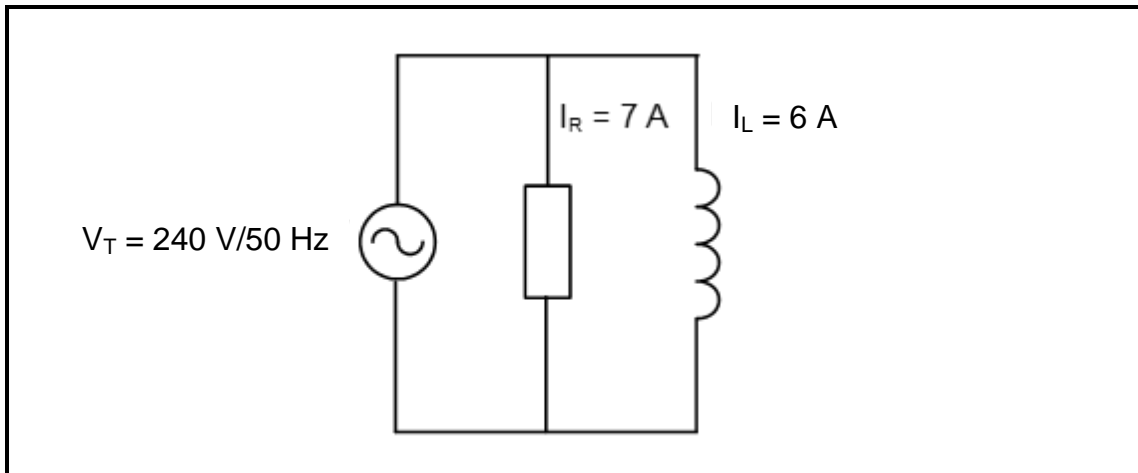

FIGURE 5.3: PARALLEL RL CIRCUIT
5.3 FIGURE 5.3 below shows a parallel RL circuit connected to a 240 V/50 Hz supply.